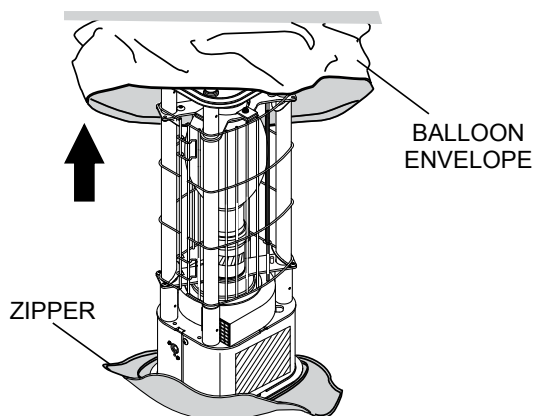

Figure 36. Rolling up Balloon Envelope
5. Roll the balloon envelope (Figure 36) upwards to expose the lamp.